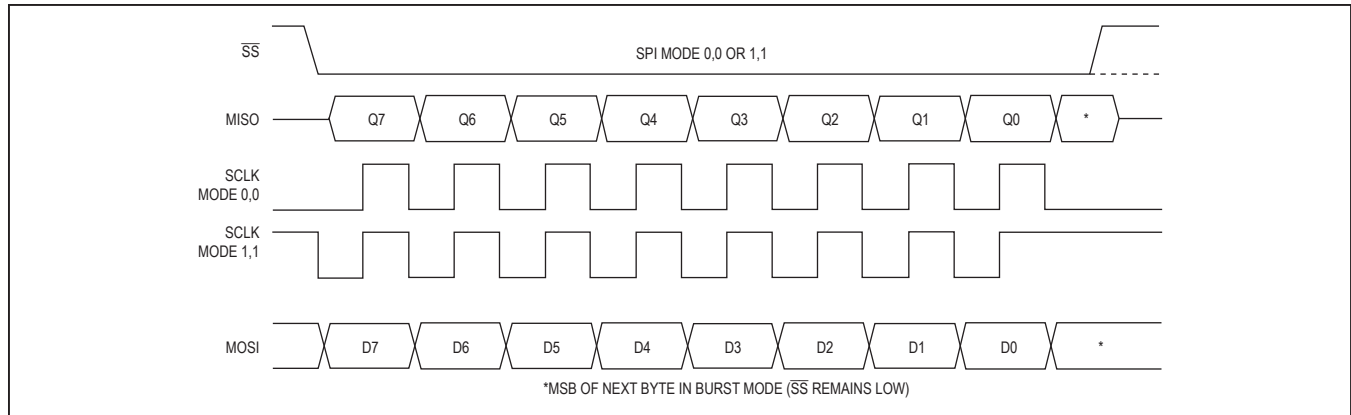

Figure 14. SPI Clocking Modes
The SPI master provides the MAX3420E SCLK signal to clock the SPI interface. SCLK has no low-frequency limit, and can be as high as 26MHz. The MAX3420E changes its output data (MISO) on the falling edge of SCLK and samples input data (MOSI) on the rising edge of SCLK. The MAX3420E ignores SCLK transitions when  $\overline{SS}$  is high. The inactive level of SCLK may be low or high, depending on the SPI operating mode (Figure 14).
The MAX3420E SPI interface operates without adjustment in either SPI mode (CPOL = 0, CPHA = 0) or (CPOL = 1, CPHA = 1). No mode bit is required to select between the two modes since the interface uses the rising edge of the clock in both modes. The two clocking modes are illustrated in Figure 14. Note that the inactive SCLK value is different for the two modes. Figure 14 illustrates the full-duplex mode, where data is simultaneously clocked into and out of the MAX3420E.
- (1) When  $\overline{SS}$  is high, the MAX3420E is unselected and three-states the MISO output.
- (2) After driving SCLK to its inactive state, the SPI master selects the MAX3420E by driving  $\overline{SS}$  low. The MAX3420E turns on its MISO output buffer and places the first data bit (Q7) on the MISO output (Figure 14).
- (3) The SPI master simultaneously clocks the command byte into the MAX3420E MOSI pin, and USB status bits out of the MAX3420E MISO pin on the rising edges of the SCLK it supplies. The MAX3420E changes its MISO output data on the falling-edges of SCLK.
- (4) After eight clock cycles, the master can drive  $\overline{SS}$  high to deselect the MAX3420E, causing it to three-state its MISO output. The falling edge of the clock puts the MSB of the next data byte in the sequence on the MISO output (Figure 14).
- (5) By keeping  $\overline{SS}$  low, the master clocks register data bytes out of the MAX3420E by continuing to supply SCLK pulses (burst mode). The master terminates the transfer by driving  $\overline{SS}$  high. The master must ensure that SCLK is in its inactive state at the beginning of the next access (when it drives  $\overline{SS}$  low). In full-duplex mode, the MAX3420E ignores data on MOSI while clocking data out on MISO.